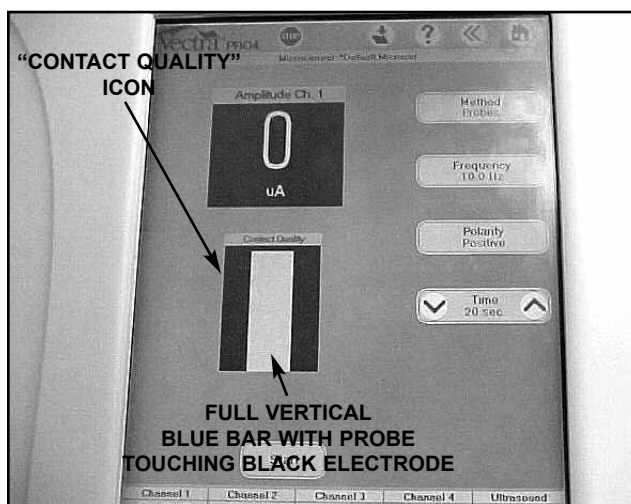

FIGURE 5.16
7. The tone (search mode) should increase in pitch and the "Contact Quality" icon should display a full verticle blue bar. See Figure 5.16.
8. Press the blue button on the probe. The tone should stop and the treatment counter should begin countdown. Once the treatment timer is at zero (0) a "chime" will be heard and the tone (search mode) will restart (with probe away from black electrode).